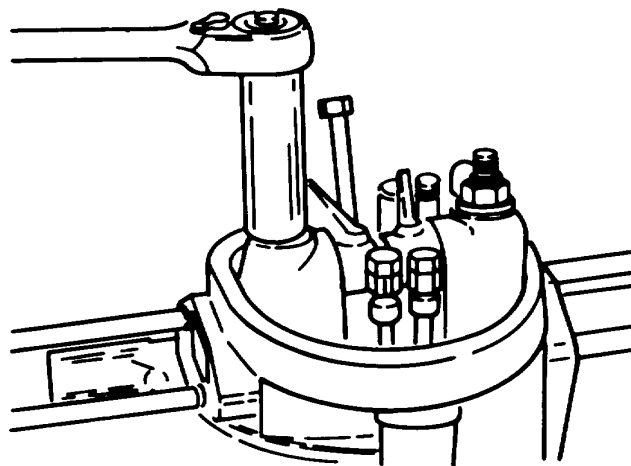

Figure A-60. Rocker Arms
- (1) Torque the cylinder head, using a 13mm deep well socket, to the torque specified. After torquing, tighten down the nuts holding the push rod tube retaining spring and adjust the valves. (Figure A-60.).